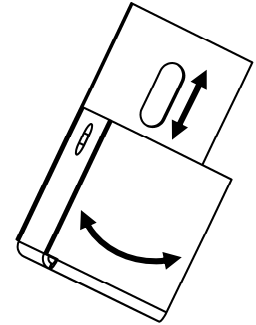

Figure 4-27
2. Loosen the bolt just until you can move the bracket. **DO NOT REMOVE THE BOLT.** The sensor bracket rotates and moves up and down in the slot on the bracket, as shown in Figure 4-27.